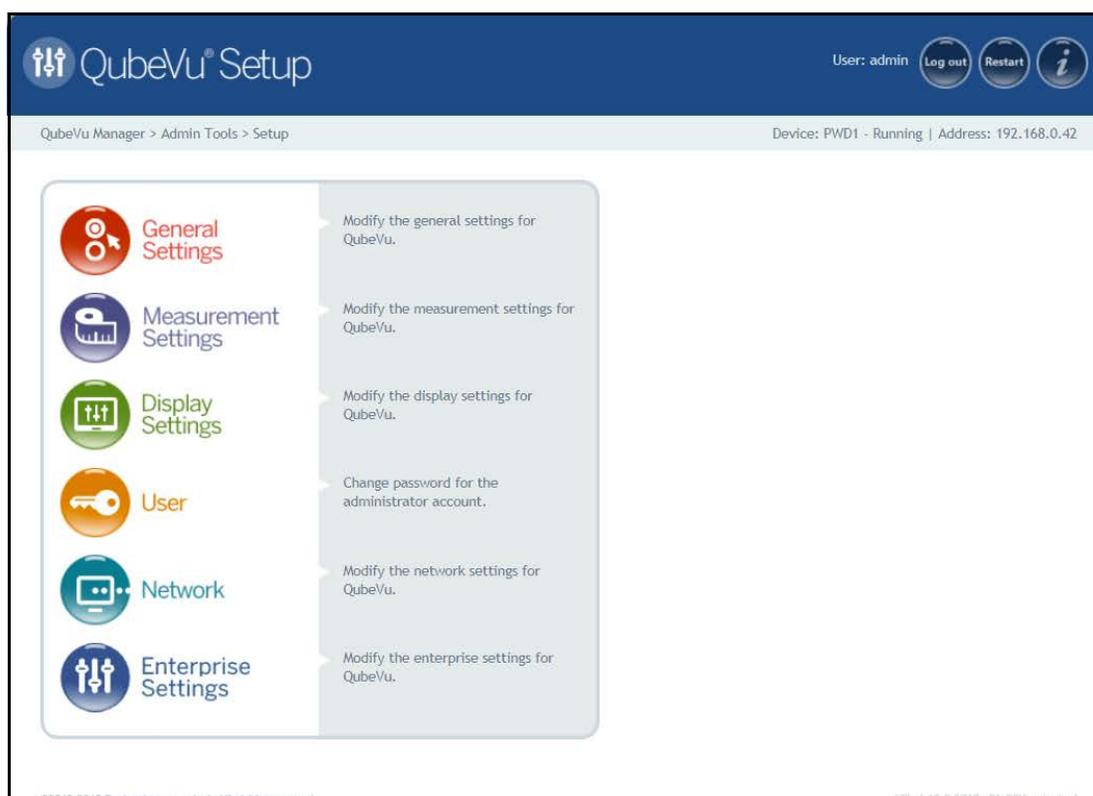

Figure 6-1. Setup Menu
- Press  **General Settings** from the **Setup** menu (Figure 6-1 on page 17) to enter the **General Settings** menu